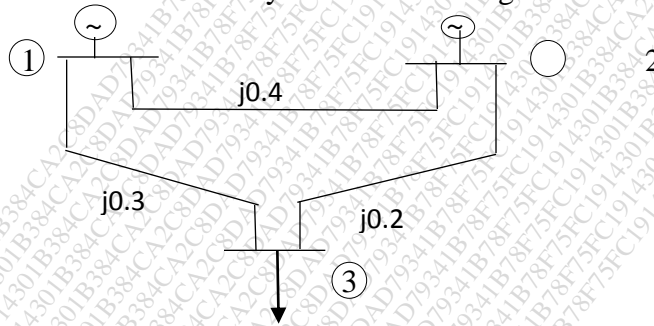

Fig.3
b) Fig.3 shows 3 bus power system. 08